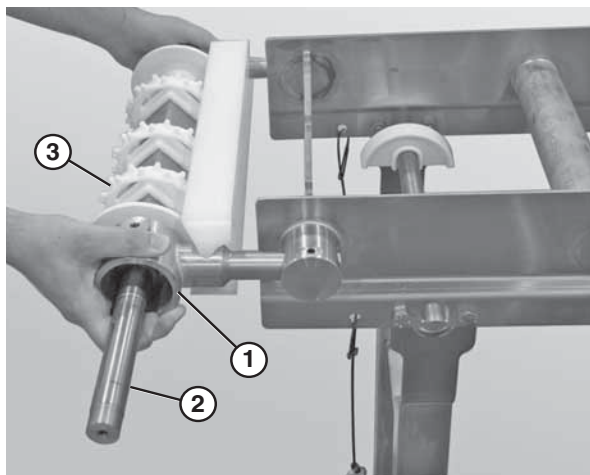

Figure 65
6. Slide the drive tail assembly out of the take up blocks (**Figure 65**).
7. Slide the motor support bracket (**Figure 65, item 1**) off the drive spindle (**Figure 65, item 2**).
8. Remove the sprockets (**Figure 65, item 3**).